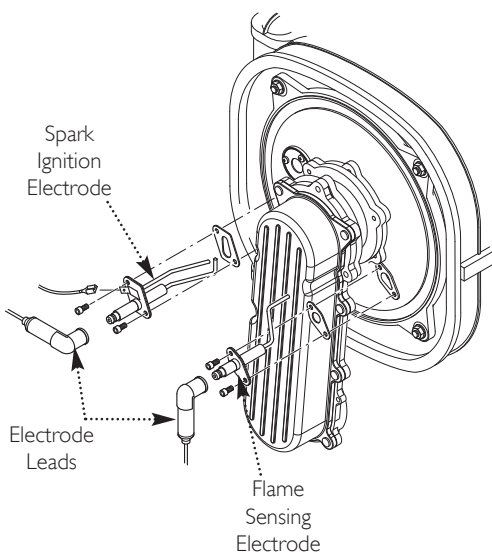

Fig. 52
15.2 Spark Ignition and Flame Sensing Electrodes (Fig. 52)